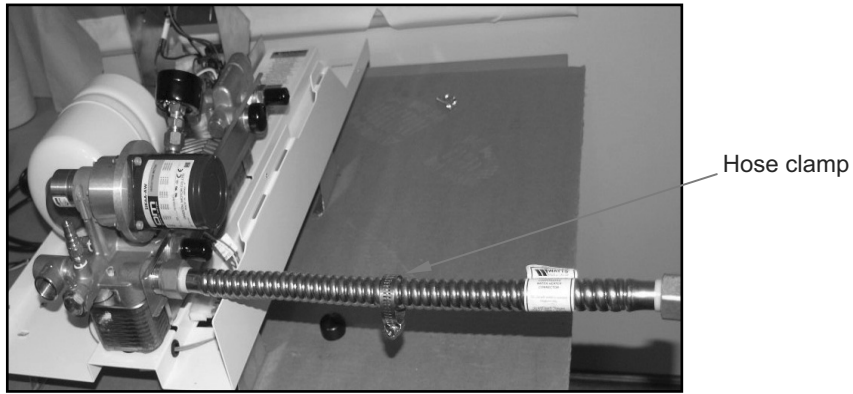

Fig.4.2.1 – Flexible pipe connected to Energy Station. Hose clamp ready to attach thermistor.
7. With Energy Station lying flat on floor or on work bench, connect and tighten flexible corrugated copper pipe to water port at right of lower manifold (*Fig.4.2.1*). Thread sealant or Teflon tape is not required as gasket ensures water-tight seal. Do not over-tighten or gasket may be damaged.